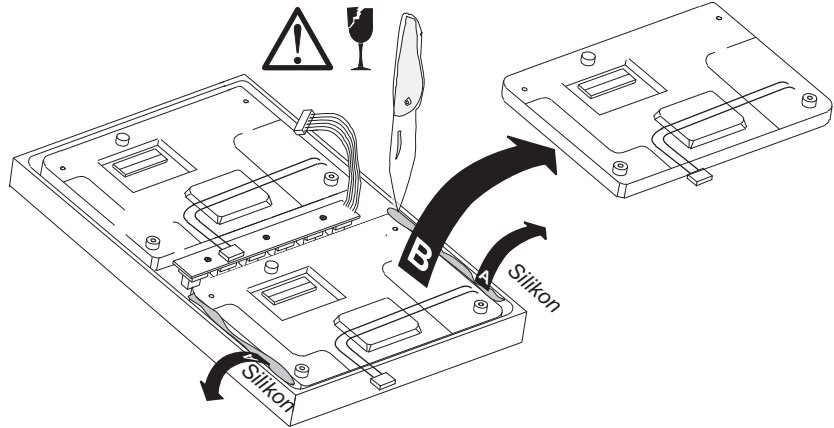

Fig. E 8-5: Removing the broken display
5. Remove carefully the fixing silicone (see Fig. E 8-5, A). Avoid damage of the connected cables. Disassemble the broken display (see Fig. E 8-5, B).